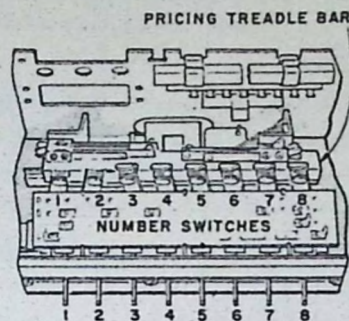
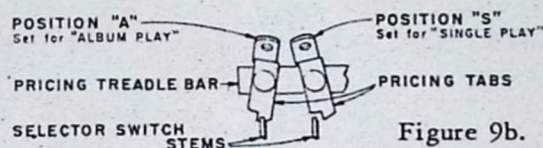

Figure 9a.
Figure 9b.
Removal of the Electrical Selector Cover exposes the Pricing Treadle Bar, Figure 9a, to which are attached eight (8) Pricing Tabs. The tab which corresponds to the required number group is placed in position "A", Figure 9b. Tabs 1 and 2 are permanently set for "Album Play".